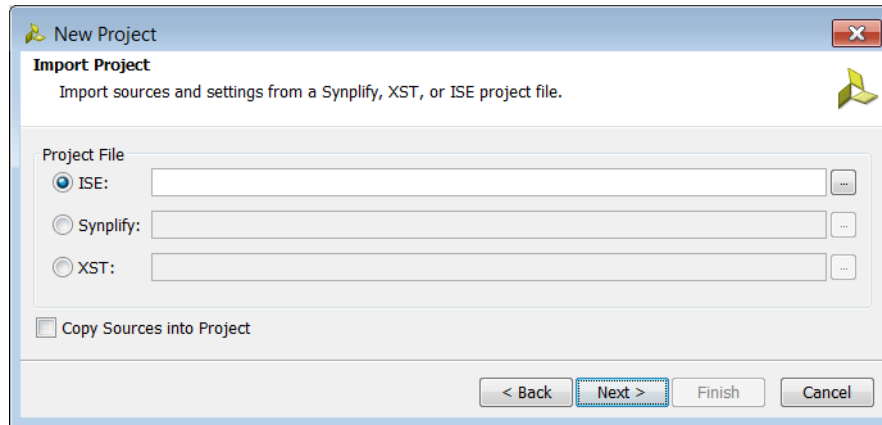

Figure 2-10: New Project Wizard—Import Project Page
3. In the Import Project page (Figure 2-10), use the following options to specify the project file to import, and click **Next**.